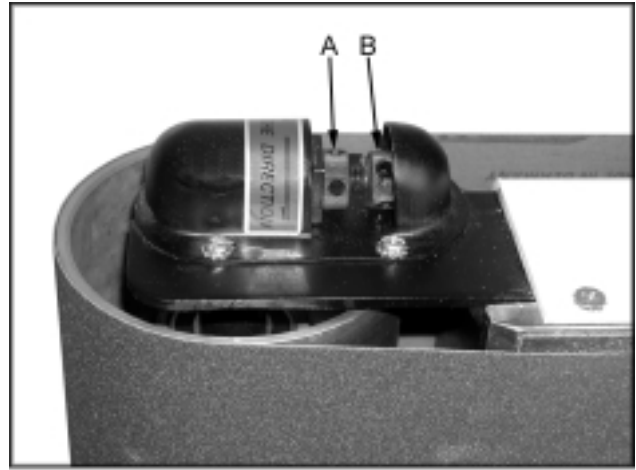

Fig. 11
3. Insert the driver with the round shaft, supplied with the machine into the micro adjusting nut (A, Fig. 11) and turn away from you to loosen.
4. Turn the micro adjusting screw (B, Fig. 11) in $\frac{1}{4}$ turn increments until the belt tracks evenly on the rollers when rotated by hand.
5. Tighten the micro adjusting nut (A, Fig. 11).